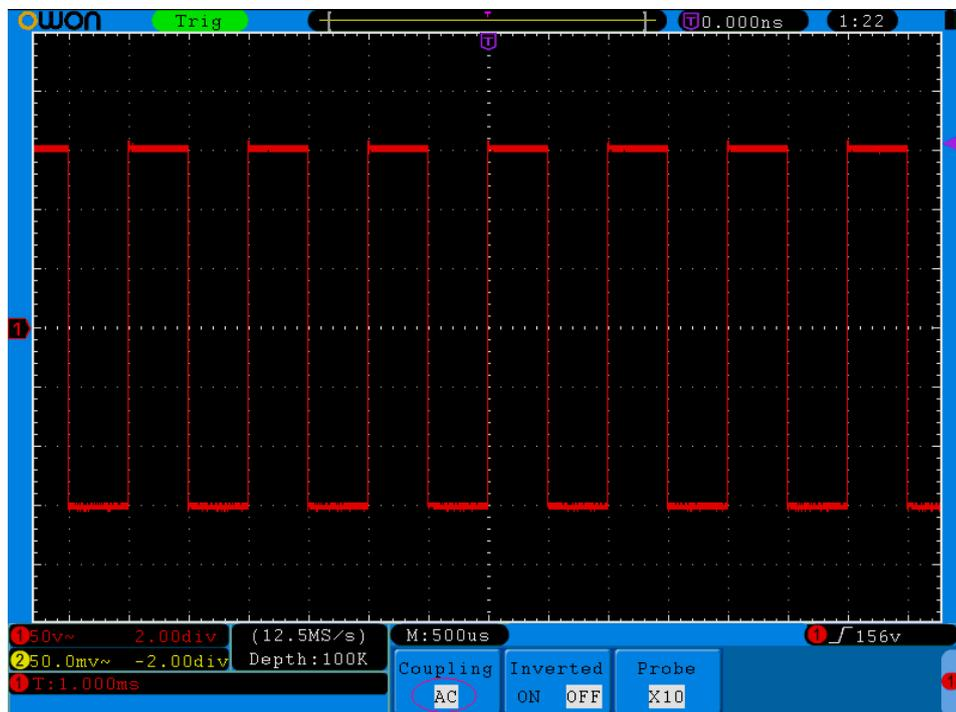

Fig. 5-2 AC Coupling Oscillogram
- (1) Press the **CH1 MENU** button and call out the CH1 SETUP menu.
- (2) Press the **H1** button, the Coupling menu will display at the screen.
- (3) Press the **F1** button to select the Coupling item as “DC”. Both DC and AC components of the signal are passed.
- (4) Then, press **F2** button to select the Coupling item as “AC”. The direct current component of the signal is blocked. The waveforms are shown as Fig.5-2.